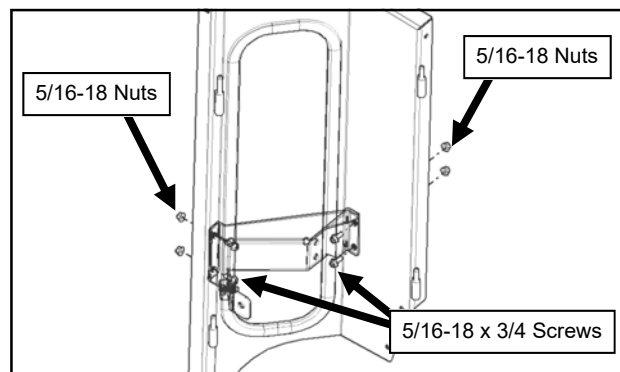

Fig. 5.1 (Pre-Assemble Rear Light Mount to Rear Leg)
- 5.1** Away from the tractor, assemble the left Rear Light Mount onto the left Rear Leg Assembly. See Figure 5.1. Center the Mount in the slots as much as possible and tighten the hardware.